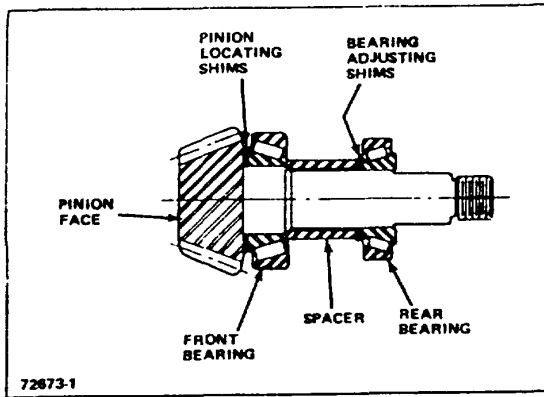

Figure 3-7. Pinion Bearing Spacer
3. Slide spacer (Fig 3-7) on pinion shaft with correct end of spacer (beveled ID) towards pinion gear.